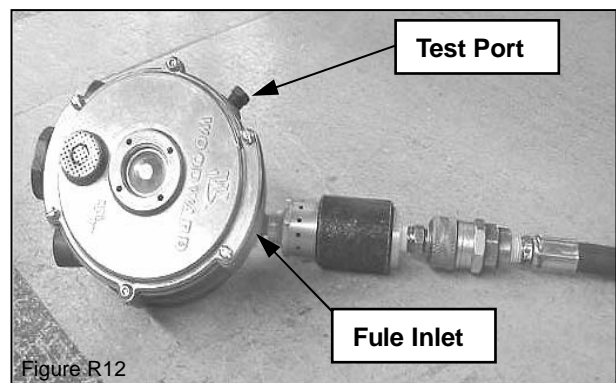

Figure R12
2. Connect a compressed air line (shop air ~100psi) to the liquid propane fuel inlet of the N2001 Regulator (Figure R12).